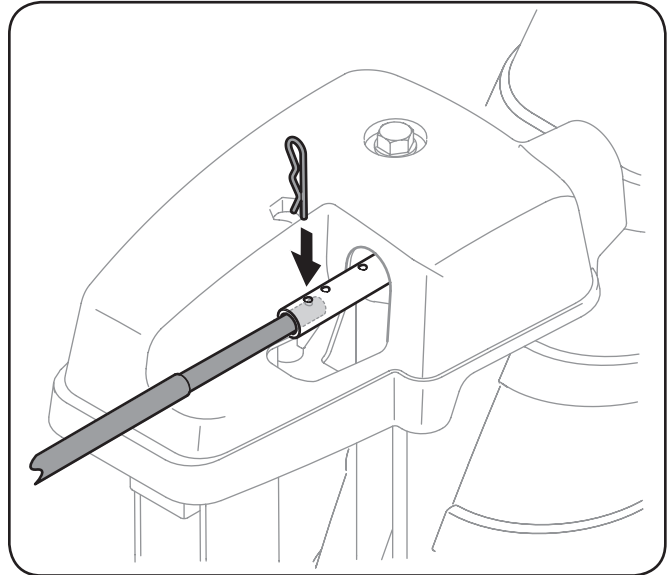

Figure 6-8
1. Remove the hairpin clip from the hole closest to the chute assembly on the chute rotation assembly. See Figure 6-8.
3. Reinsert the hairpin clip through this hole and the chute control rod. See Figure 6-8.